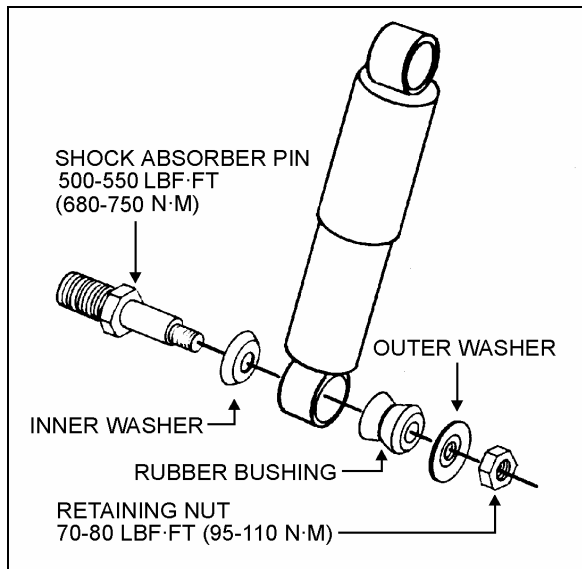

FIGURE 32: SHOCK ABSORBER
1. Remove nuts and washers from shock absorbers on upper and lower mounting pins, taking care to identify the inner and outer washers to ease reinstallation. Refer to figure 32 for details.